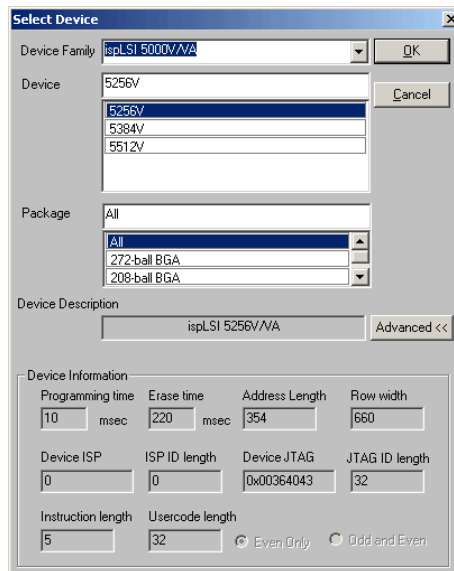

Figure 2-20. Select Device Dialog
- Choose **Options** ⇒ **Limited Scan** if you want the ispVM System software to scan the board against all possible devices listed in the Select Device dialog (Figure 2-20), except for all ispLSI 3000 and 6000 devices.